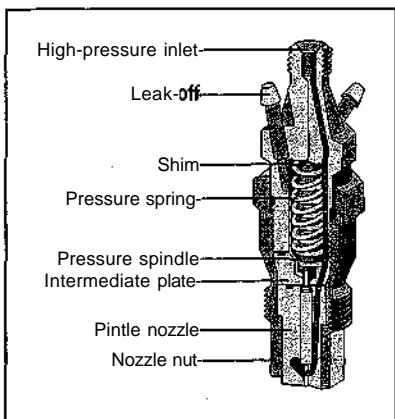

Figure 7-4:
3. Fuel pumps deliver the fuel from the fuel tank to the engine. On its way, the fuel passes through a couple of fuel filters (see Figure 7-3) that clean it before it can get to — and clog up — the fuel injector nozzles (see Figure 7-4). Proper maintenance of these filters is especially important in diesels, because fuel contamination can clog up the tiny holes in the injector nozzles.